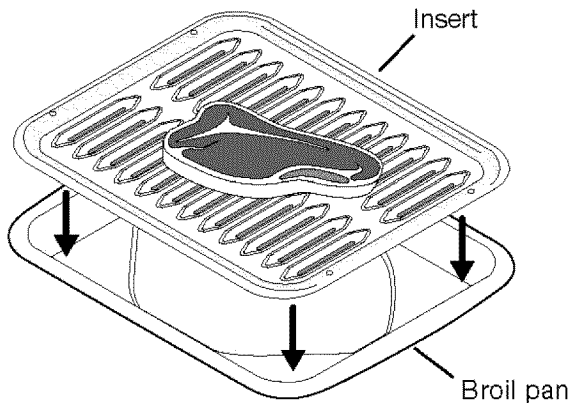

Fig. 1
- Use the recommended pans and oven rack positions for the type of meat being prepared- *p.22 Figs. 1, 2 & 3-*.
The broil pan insert (if equipped) contains slots that allows grease from the meat to drain into the broil pan. Place prepared meat on broil pan insert and then place onto broiler pan as shown-*Fig. 1*.